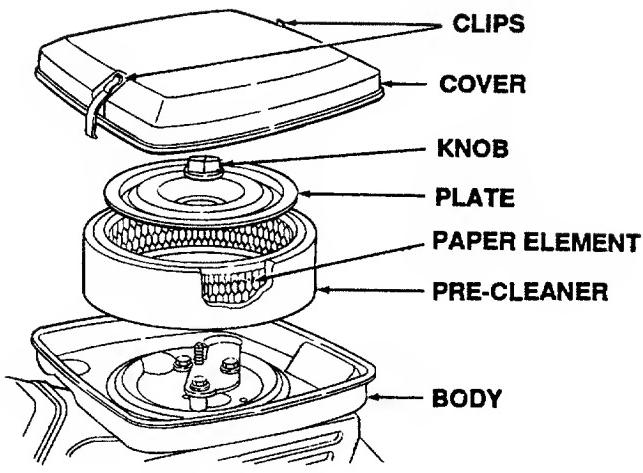

Figure 26. Air Cleaner Assembly.
- Unhook the clips on both sides of the air cleaner cover and remove the air cleaner cover (See Figure 26).
- Remove the foam precleaner by sliding it up off the paper element (See Figure 26).
1. Unhook the clips on both sides of the air cleaner cover and remove the air cleaner cover (See Figure 26).
2. Remove the foam precleaner by sliding it up off the paper element (See Figure 26).